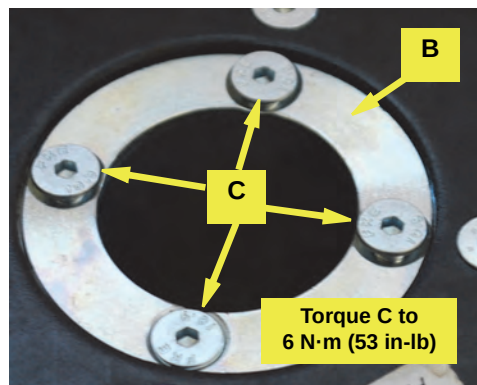

Figure 1b: Securing the shaft adapter
- Using the four countersunk screws **C**, secure the shaft adapter **B** in the steering wheel. Torque the screws to **6 N·m (53 in-lb)** (Figure 1b).
- Install power cable **TA** between the PWR IN port on the ECU **TC** and the machine's battery (Figure 1b with inset).
Figure 1b with inset: Power cable connection at ECU